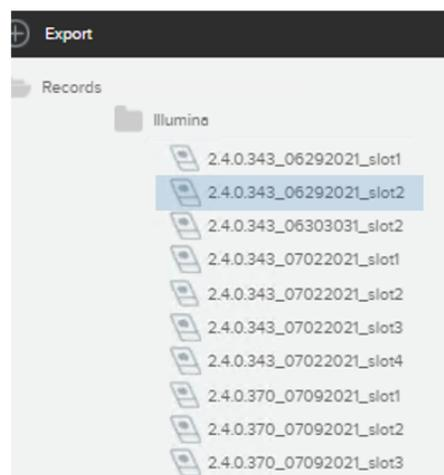

Figure 72: Navigation window for Data Exchange study selection
2. Click on **Data Exchange** from the Administration menu. Within the Data Exchange window, navigate to the scan or study to export (Figure 72). Use **Ctrl+click** to select multiple files. It is not possible to select entire folders.